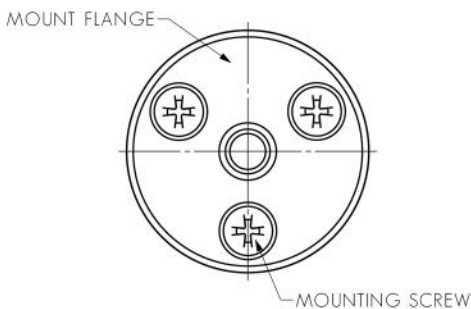

FIG. 3 - ENSURE WALL BRACKETS ARE ASSEMBLED CORRECTLY & FIRMLY.
**NOTE: RICHE RAIL 17 EXTRUSION IS NOT SYMMETRICAL. ONE SIDE HAS AN EXTRUDED SCREW RAIL WHICH MUST BE ON THE SIDE FARTHEST FROM THE WALL. SEE FIGURES 3 OR 4 BELOW FOR DIRECTION.**